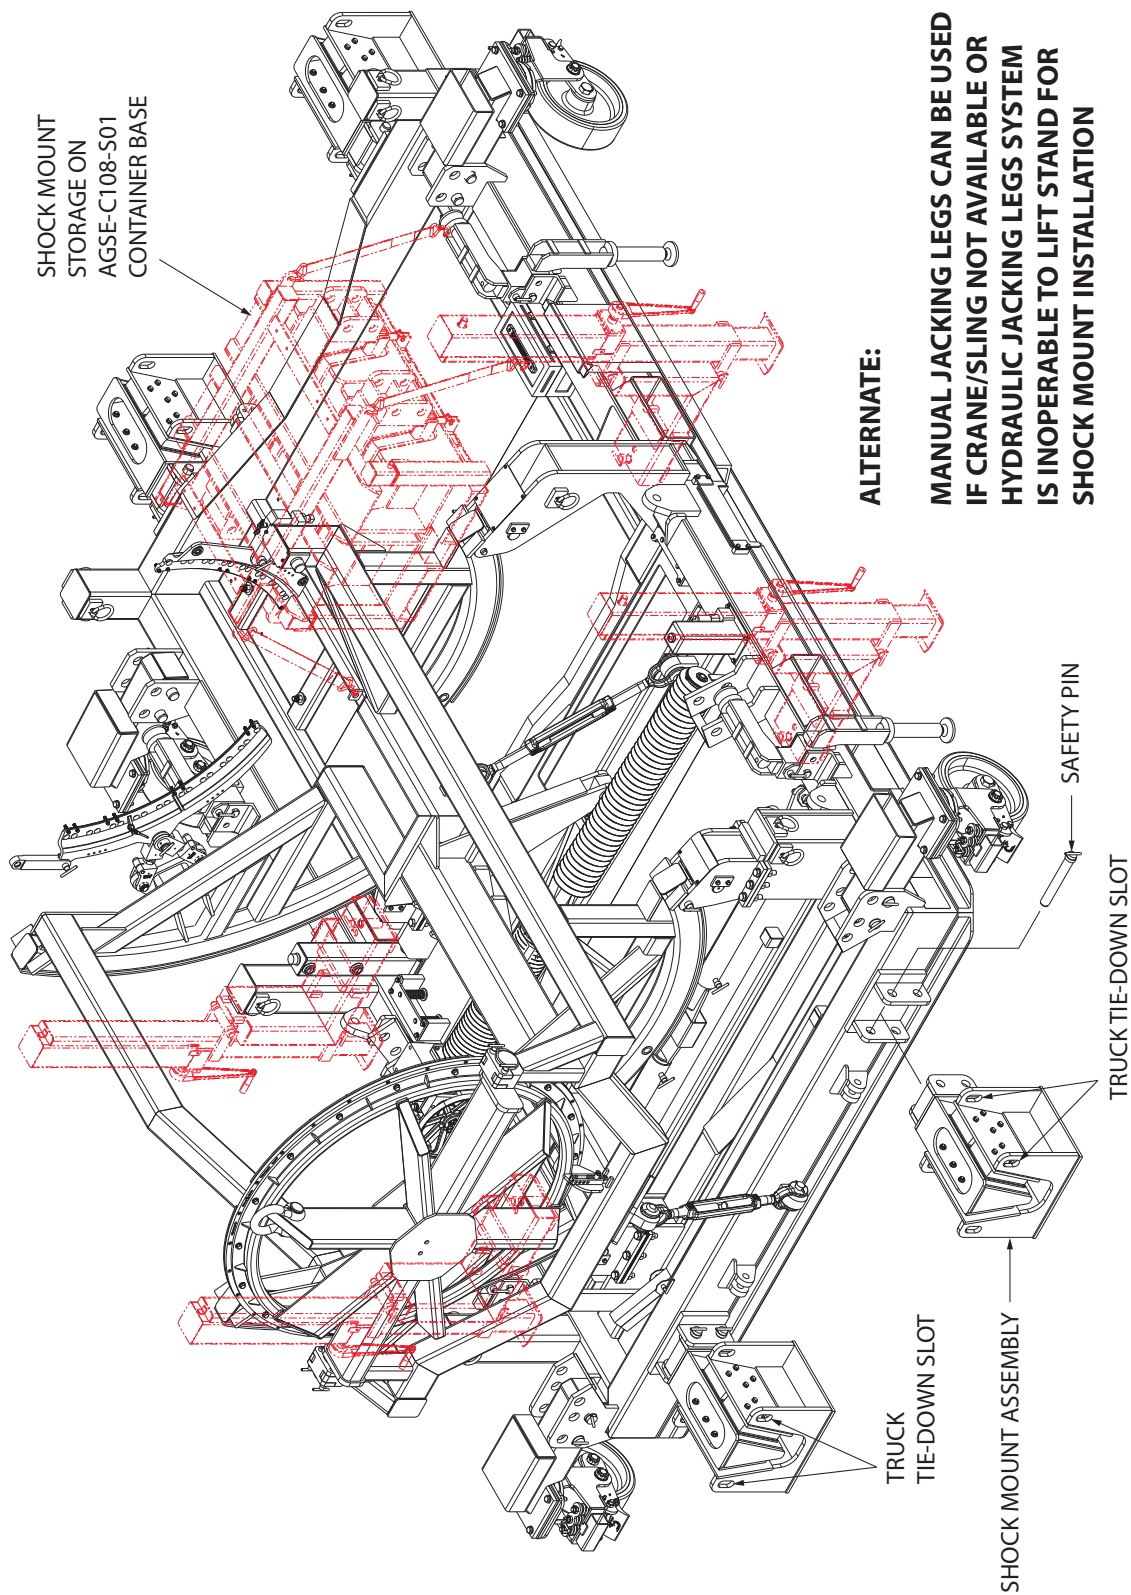

Figure 5.8-1 Shock Mounts Installation Using Hydraulic Jack Legs
5.8 Shock Mount Usage and Installation (Figure 5.8-1)